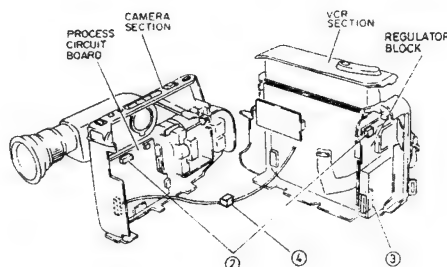

Fig. 2-23
- 2) Disconnect two (2) connectors (CN515, CN903) on the regulator block and process circuit board. (See Fig. 2-23)
- 3) Disconnect one (1) flat cable (CN1216) from the regulator block.